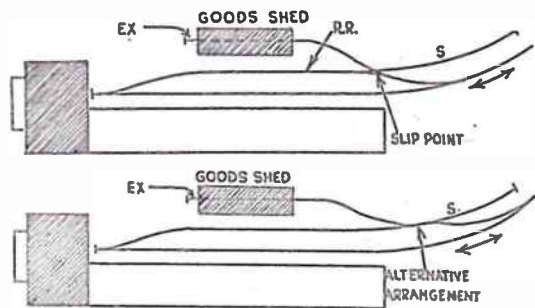

Fig. 1
allow the engine to get from one end of its train to the other. Such a loop road is marked in Figs. 1 and 2 as (RR), in which Fig. 1 represents probably the most usual arrangement to be found, and which is quite satisfactory from an operating point of view, without the inclusion of a turntable; whilst if freight
The very smallest type of terminal is, of course, that located at the end of a single line of track, and three prototype stations of this character are shown schematically in Figs. 1, 2 and 3, of which Fig. 1 gives two alternative